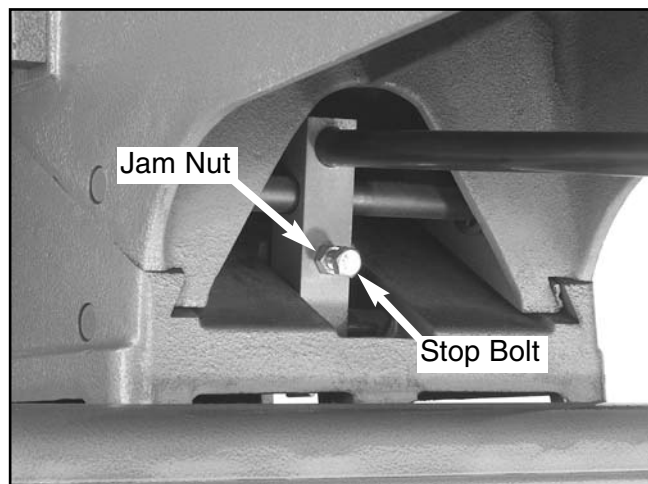

Figure 34. Model G1018 table stop bolt (only one side shown).
The Model G1018 has table stop bolts (see **Figure 34**) that can be set to repeatedly bring the table back to 0 on the depth indicator scale. These table stop bolts are located directly under both table adjustment levers. If you do not have the Model G1018, skip these instructions.
2. Loosen the jam nut on the stop bolt, shown in **Figure 34**.